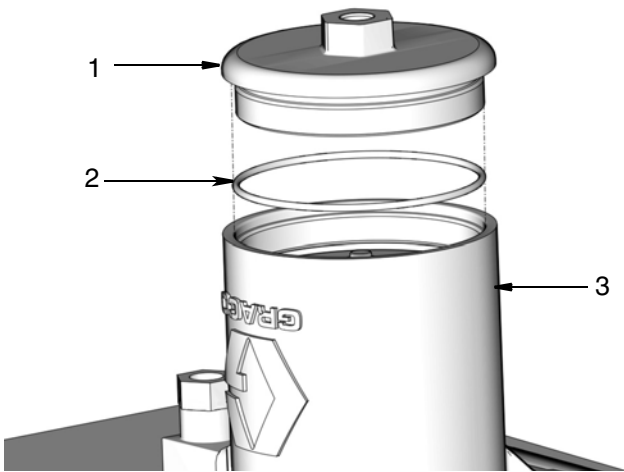

FIG. 21
19. Remove cover (1), cover o-ring (2) and spring (6). Dispose o-ring according to all regulations for proper disposal (FIG. 21).